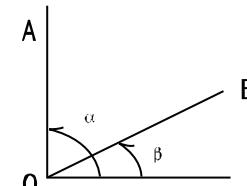

Fig.8
(1) Sight A with vertical hair, read circle, get angle α .
(2) Turn instrument to sight B, get angle β .
(3) $\angle AOB = \alpha - \beta$ (Fig.8)